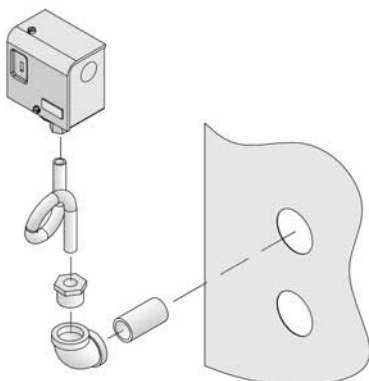

Figure 9: Pressure Limit Installation for Probe LWCO Equipped Boilers
- b. Probe LWCO only: Install Limit in Tapping "A" using 3/4" NPT x 3" long nipple, 3/4" NPT elbow, 3/4" NPT x 1/4" NPT bushing, and syphon. See Figure 9.